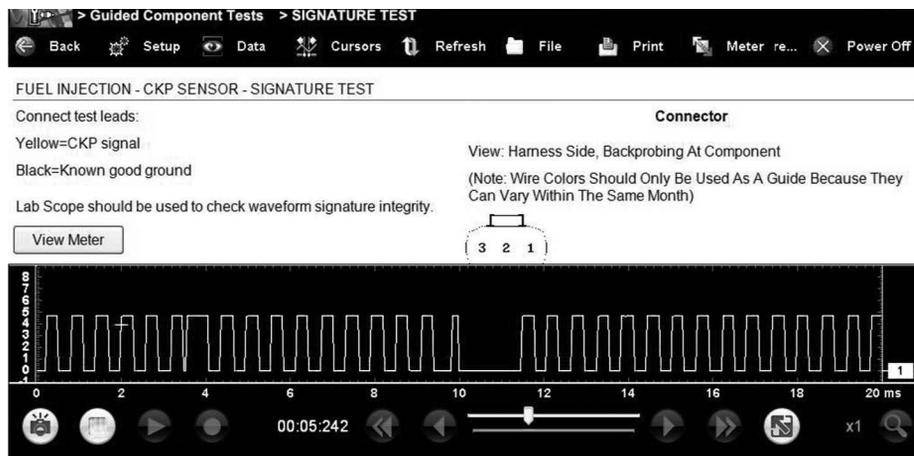
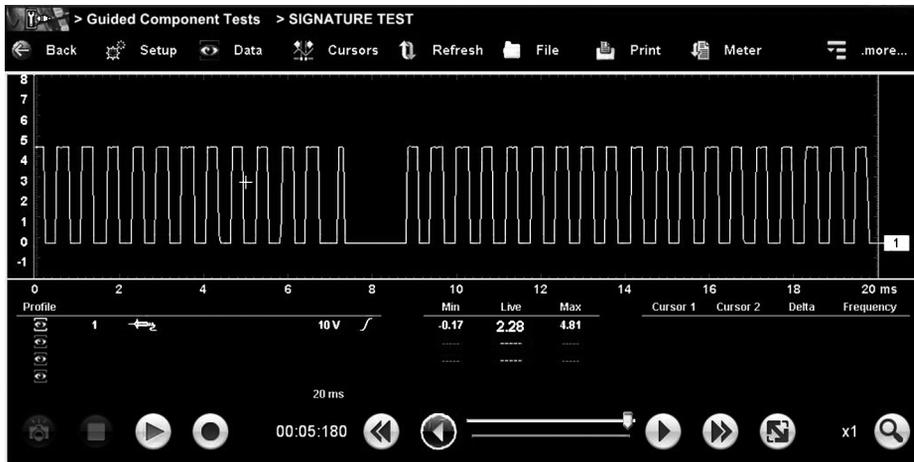

Figure 10 CKP Signature Test Meter Split Screen View (Glitch on)
Figure 11 CKP Signature Test Meter View (Glitch off)
10. After the lab scope is displayed (*Figure 10*), select **Meter** from the upper toolbar (if applicable) and then select the **Expand/Collapse** icon to toggle through the different screen views available (*Figure 11*). Where applicable, selecting **Meter** again from the upper toolbar will re-open the CKP signature Test screen and lab scope in different windows.
11. Set the **Glitch switch** to off and review the waveform (Figure 11).